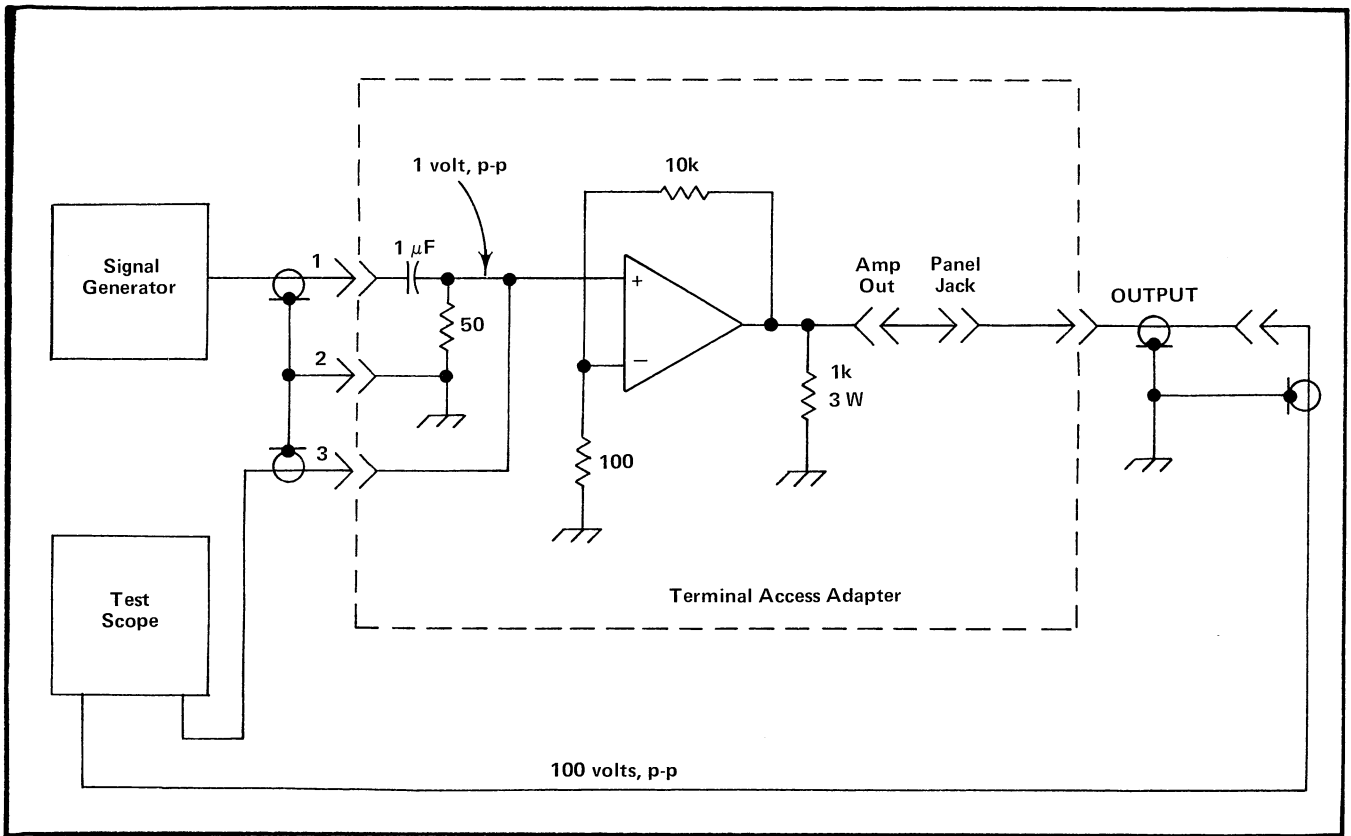

Fig. 5-2. Setup for checking Output Voltage Range.
a. Connect components on the Terminal Access Adapter as diagramed in Fig. 5-2.